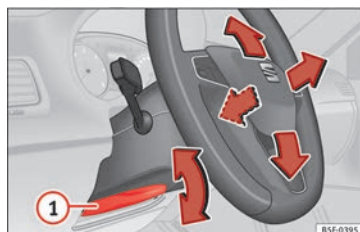

Fig. 16 Lever in the lower left side of the steering column.
- Adjusting the position of the steering wheel: Pull the » » » **Fig. 16** ① lever down, move the steering wheel to the desired position and lift the lever back up until it locks.